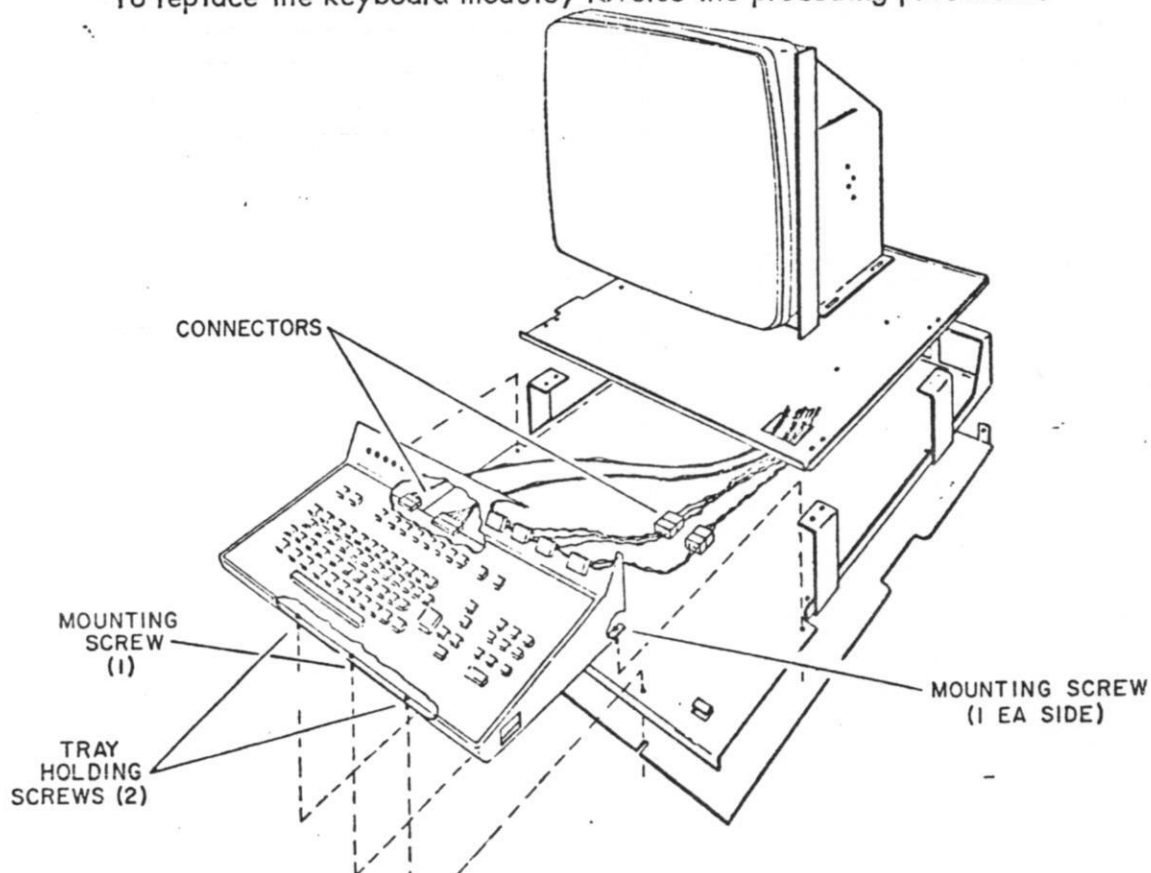

Figure 6-20. Keyboard Module Mounting
- Disconnect cables from keyboard module (see Figure 6-20).